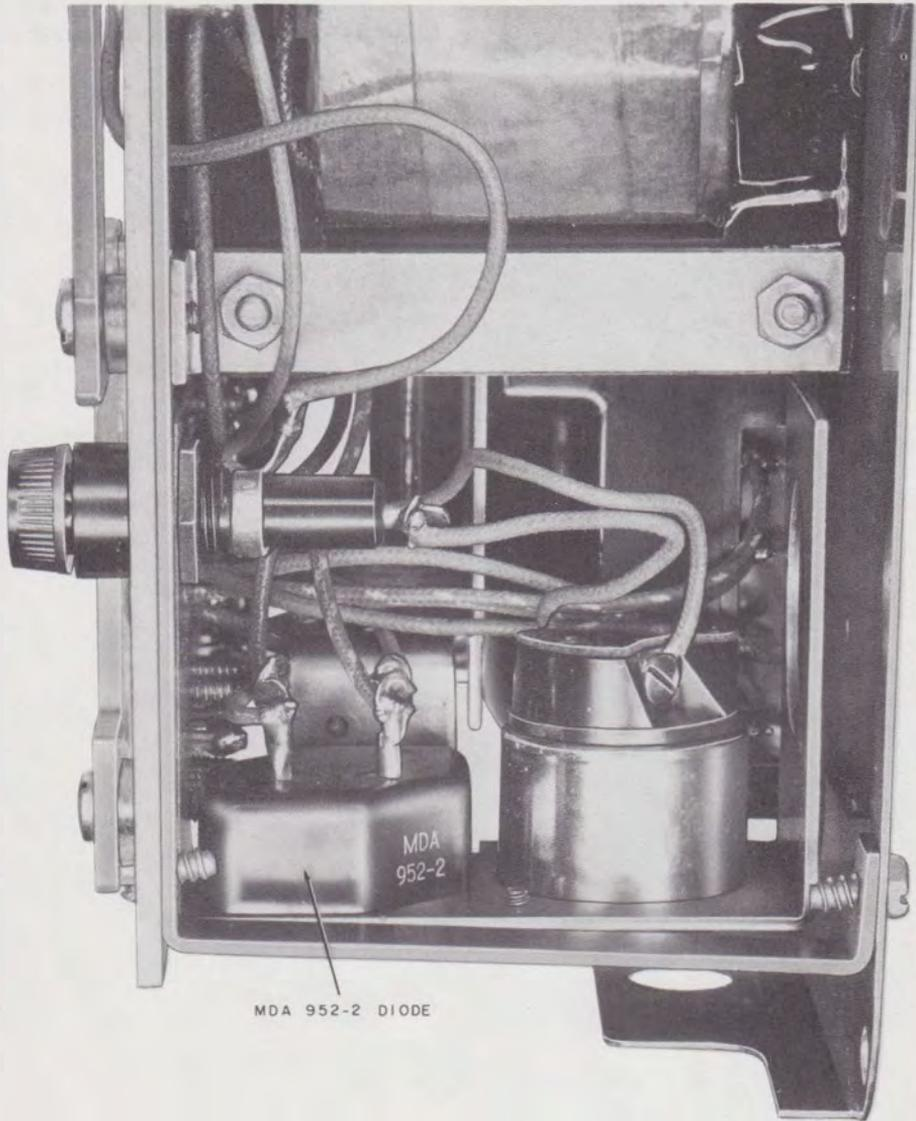

Fig. 6—Diode Location on 20B1 Power Unit
- The bridge rectifier is located on the mounting bracket which also supports the power cord receptacle. See Fig. 6.